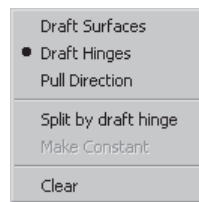

Figure 7-70 Shortcut menu
3. Hold down the right mouse button to invoke the shortcut menu shown in Figure 7-70.